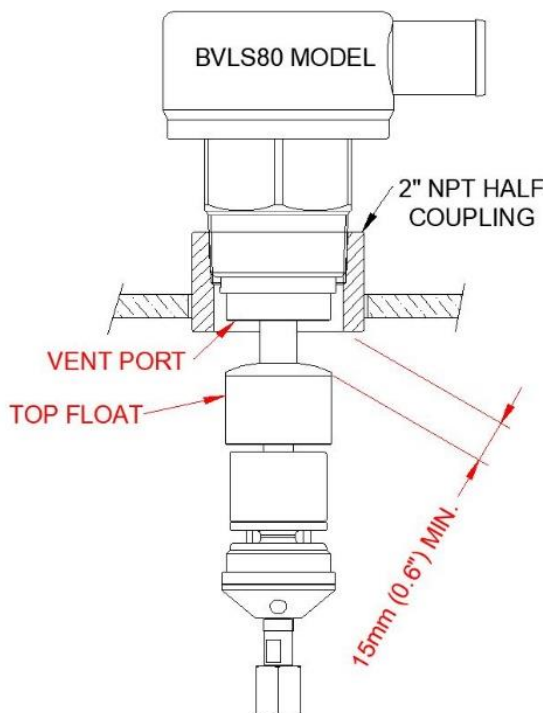

Figure 16 – Restriction on Length of 2" NPT Half Coupling with BVLS Level Sensor
Figure 16 illustrates an important condition of the **BVLS80** series vent porting in relation to the surrounding 2" NPT half coupling used to mount the level sensor to the tank top. Once installed, ***it is critical the distance from the base of the half coupling bore (ID) to the domed top of the Top Float is not less than 15mm (0.6")***. Failure to comply with this condition will jeopardise the proper “tank venting” function of the level sensor during tank refuelling, by causing the top float to prematurely rise and seal the venting passage. The use of a Banlaw AUS25AA-1 Half Coupling will ensure this condition is satisfied – an alternate half socket may require shortening (truncation).